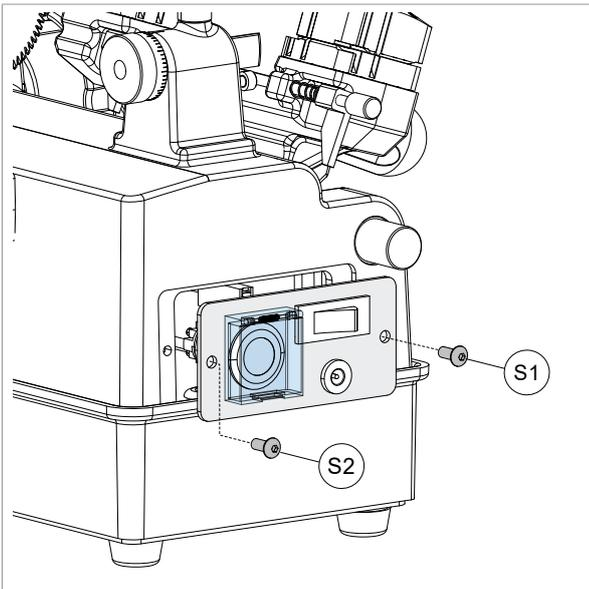

Fig. 45
**⚠ ATTENTION:** turn off the machine with motor switch (T), turn off main power switch (N), close the switch protection cover (N1) and check that it is NOT connected to the battery.
- 2) Place the machine in upright position and unscrew (S1) and (S2) screws to open the plate, as shown in Fig. 45.